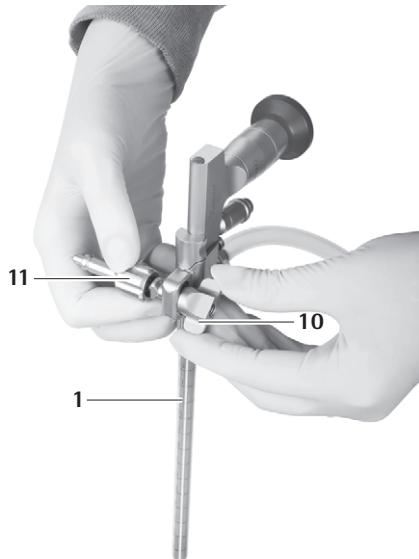

Fig. 19
- Screw on the wing nut **10** until the holding arm adapter **11** is fixed in place, see Fig. 19.